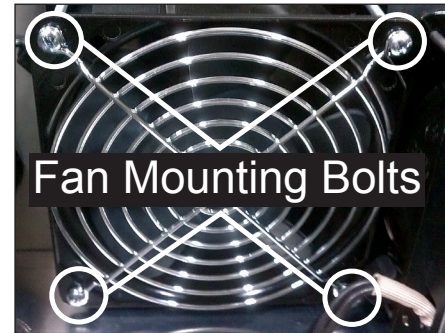

Figure 39: ISP Enclosure Fan Assembly
2. Using a Phillips screwdriver, remove the four fan mounting bolts that secure the fan to the ISP enclosure. Refer to **Figure 39**.